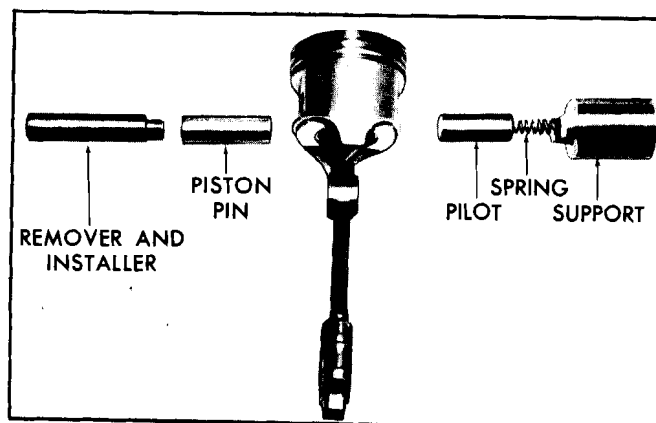

Fig. 6-66 Piston Pin Replacement
3. Install piston pin on installer and pilot spring and pilot in support (Fig. 6-66). Use piston pin removing and installing tool J-9510.